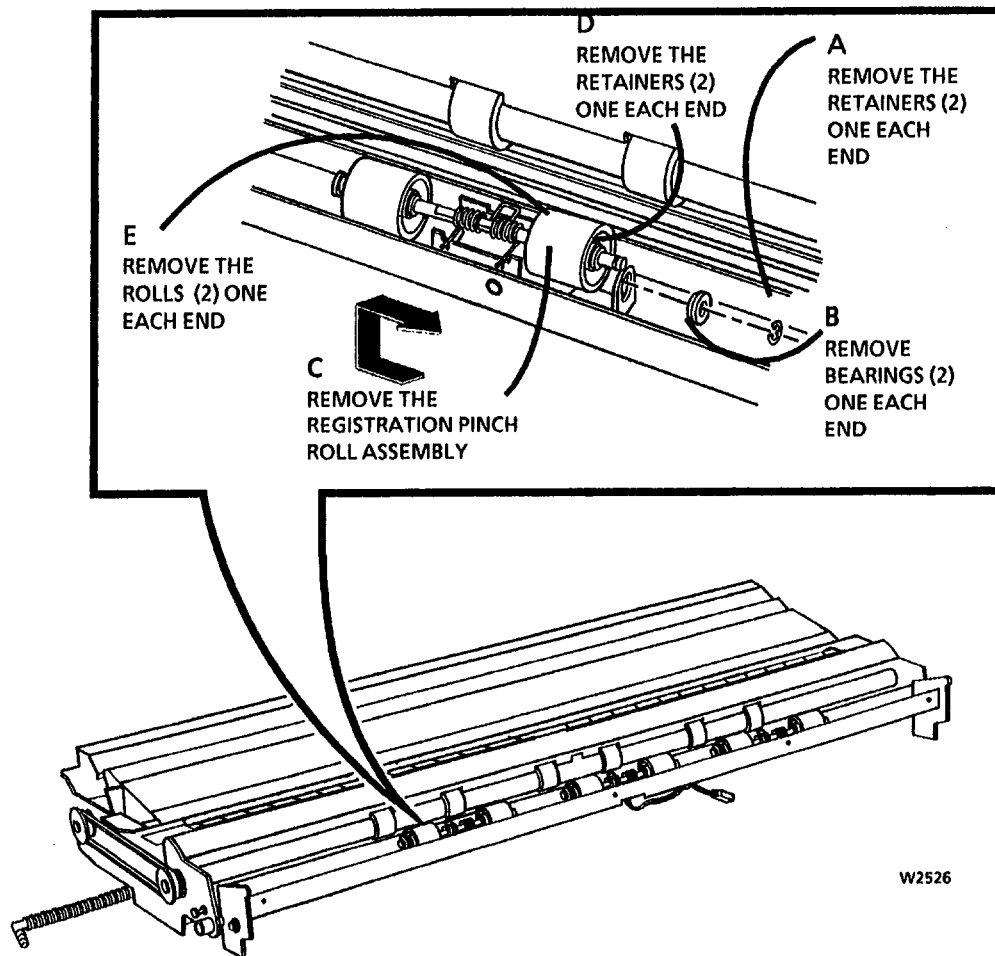

Figure 2. Remove the Registration Pinch Rolls
6. (Figure 2): Remove the Registration Pinch Rolls.